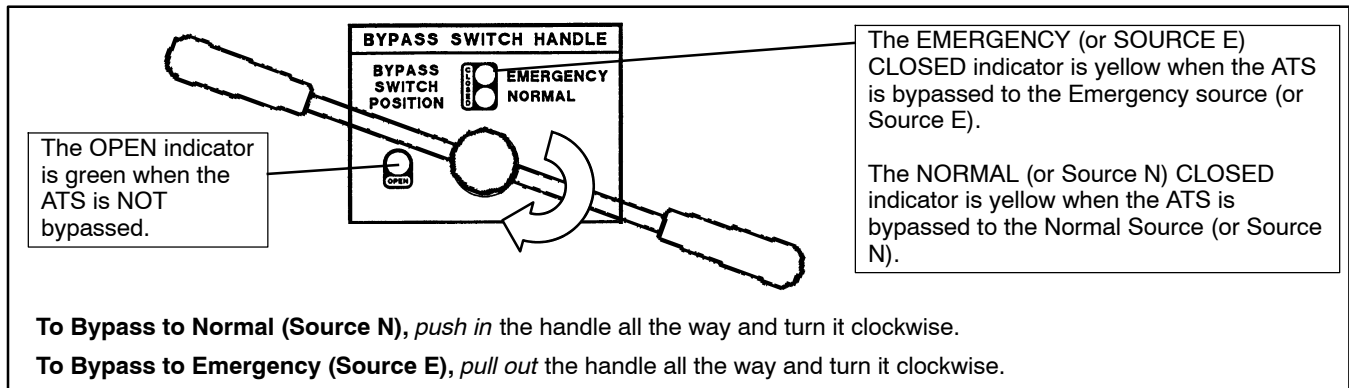

Figure 7-52 Bypass Handle and Position Indicators, 1600-3000 Amp Models
The bypass handle must be in the OPEN position (green indicator) and the isolation handle must be in the CLOSED position (window) at the start of the procedure. See Figure 7-52.
1. **Push in** the bypass handle all the way. See Figure 7-52.
1. **Pull out** the bypass handle all the way. See Figure 7-52.